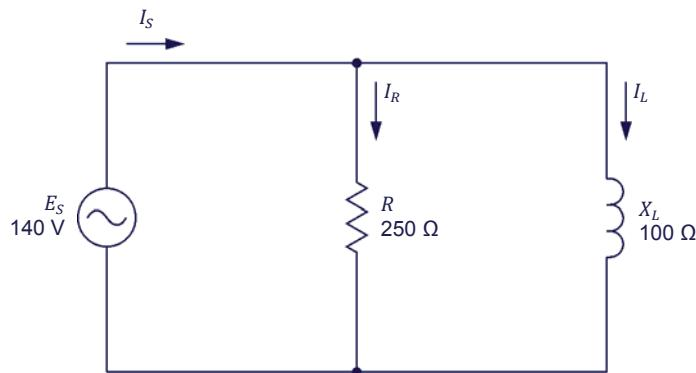

Figure 4-11. Parallel ac circuit containing a resistor and an inductor.
1. Calculate the active power  $P$  dissipated in the resistor in the circuit of Figure 4-11.
2. Calculate the impedance  $Z$  in the circuit of Figure 4-11.
3. Calculate the apparent power  $S$  in the circuit of Figure 4-11.